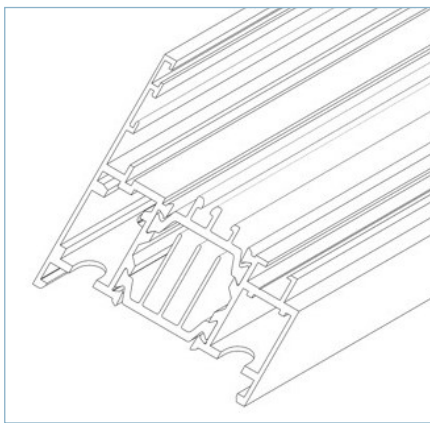

FIG 1
- ▶ 1. Ensure all mating faces of profile are sealed with silicone (FIG 1)